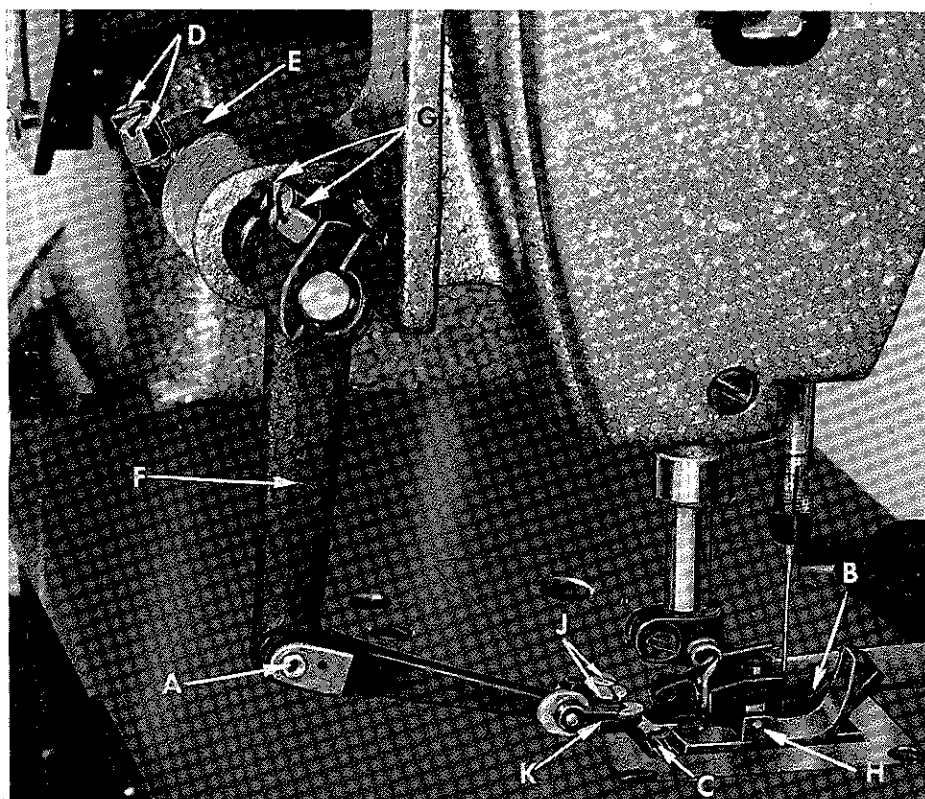
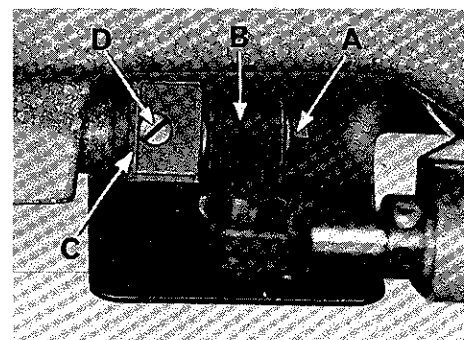

Fig. 14
Fig. 15
After the adjustments described under "Setting Height of Presser Bar" have been completed and if a change of stitch length is desired, (See paragraph under "Changing Stitch Length") remove the snap ring from one end of the top-grip-feed drive connecting hinge pin (A, Fig. 14) and withdraw pin. This is to avoid chipping teeth of the presser foot feed dog (B) or main feed dog (C) while setting the stitch to the required length. Once the stitch length has been set, the following adjustments may be required to synchronize the top-grip-feed mechanism with the main feed dog.
Loosen nut (A, Fig. 15) (it has a left hand thread) which secures the top feed crank link assembly (B) to the top feed drive eccentric head (C). Turn screw (D) counterclockwise to its extreme position and retighten nut (A). Check to be sure that the top feed crank link assembly (B) has equal lateral clearance on both sides, so there is no bind. Should adjustment be necessary, loosen screws (D, Fig. 14) and move top-grip-feed rocker arm (E) as required. Retighten screws (D). Turn handwheel to position the top feed drive arm (F) at its extreme forward end of travel. Replace the top-grip-feed drive connecting hinge pin (A) and secure with snap ring. It may be necessary to loosen screws (G) and slightly rotate the top feed drive arm (F) for
With presser foot (H, Fig. 14) raised slightly, rotate handwheel in operating direction. The presser foot feed dog should be synchronized to move forward or rearward simultaneously with the main feed dog. Should timing be necessary, remove the upper crank chamber cover located on the top right end of machine. Rotate handwheel slightly to facilitate loosening of screws (A, Fig. 16) in the hub of upper feed driven sprocket (B). While holding the handwheel, advance or retard top-grip-feed drive shaft by rotating top feed drive eccentric head (C, Fig. 15) as required. Snug-up screws (A, Fig. 16). Rotate handwheel in operating direction and observe relationship between upper and lower feed dogs. Repeat timing adjustment as necessary to obtain desired conditions, retighten screws (A) securely. Replace upper crank chamber cover.
Loosen nut (A, Fig. 15) and turn screw (D) clockwise as necessary to set the stitch length of the top-grip-feed comparable to the main feed stitch length. Retighten nut (A). Recheck for equal lateral clearance on both sides of top feed crank link assembly as described before.
Presser foot feed dog (B, Fig. 14) must line up with the main feed dog (C) left to right, and in-line-of-feed the last teeth of the top and bottom feeds should match tooth point to point. This can be accomplished by loosening screws (G) which will allow forward, rearward or lateral positioning of presser foot as required, retighten screws. A minute adjustment of the presser foot feed dog itself, from left to right, can be obtained by loosening screws (J) which secures the presser foot feed dog to the connecting rod grip feed hinge (K), position as required, retighten screws (J).